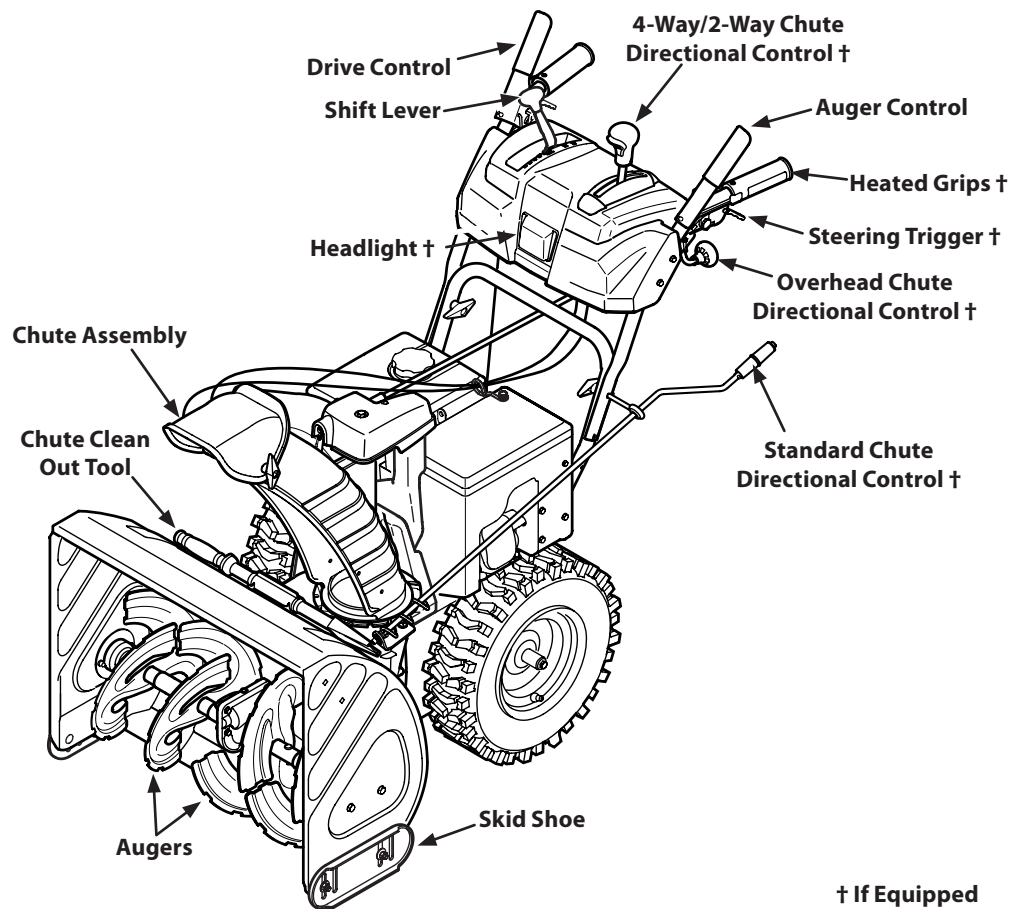

Figure 4-1
**NOTE:** The upper chute on model 2840 is also controlled by the 4-way Chute Directional Control. See Figure 4-1.
Snow thrower controls and features are described below and illustrated in Figure 4-1.